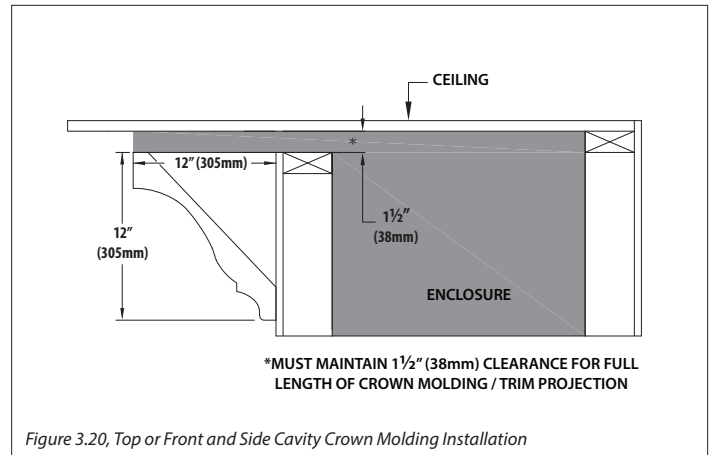

Figure 3.20, Top or Front and Side Cavity Crown Molding Installation
- Figure 3.20 shows the installation of crown molding or similar trim work that goes up to the edge of the air discharge opening. This molding or trim cannot decrease the minimum opening requirement.